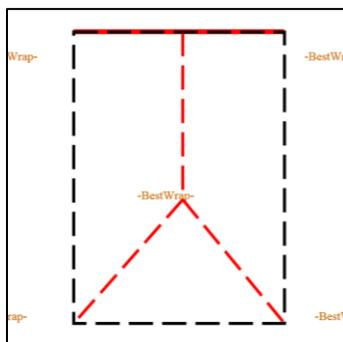

Fig 1
1. Score the WRB in a modified "I" shape, or upside-down "Y" within the RO (Fig 1)